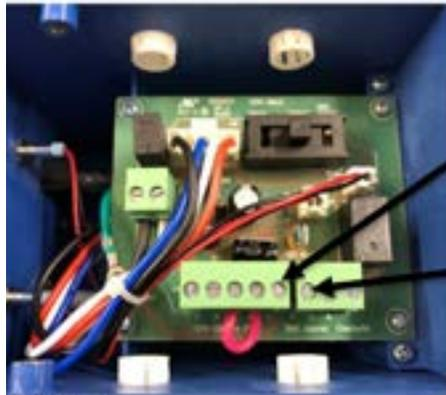

FIGURE 20
The GPS-iMOD has an internal ionization output sensing circuit. The external GPS-iDETECT-PTM is not required but may be installed as an option. Integral alarm “dry” contacts will close when the system is on and operating properly. To tie into the BMS/BAS for remote monitoring, use 18/2 twisted pair, SHIELDED, plenum rated cable and connect to the BMS/BAS ALARM contact terminals. Connect the cable shield to the ground terminal as shown in FIGURE 20. The terminal block may be removed for ease of wiring. **Keep the control wiring as far from the HV wiring as possible. DO NOT RUN BOTH CABLES TOGETHER AND DO NOT ZIP TIE CONTROL WIRING TO FLEXIBLE HV CABLES!**
2. Using 300V, 18/4, plenum rated, SHIELDED cable wire between the GPS-iDetect-P power and normally open terminals and the GPS-iMOD power supply GPS-iDetect-P terminal block as shown in FIGURE 20. Ground the 18/4 SHIELD to the ground terminal on the GPS-iDetect-P terminal strip shown in FIGURE 20.
1. Once the entire system is mounted and wired, energize the system by turning the on/off switch to the "on" position. The green power "ON" LED and "PLASMA ON" LED should illuminate. If the PLASMA ON does not illuminate, confirm the red jumper is installed between C and NO on the GPS-iDetect-P terminal block, as shown in FIGURE 20. If an external sensor is used, confirm it is on and operating.